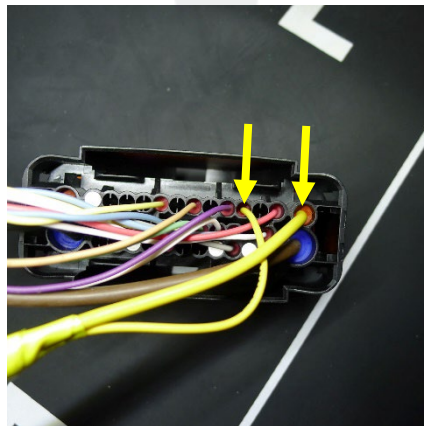

Figure 25
22. Perform a Push-Pull-Push check on each wire to make sure the wires are secure in the connector (Figure 25).